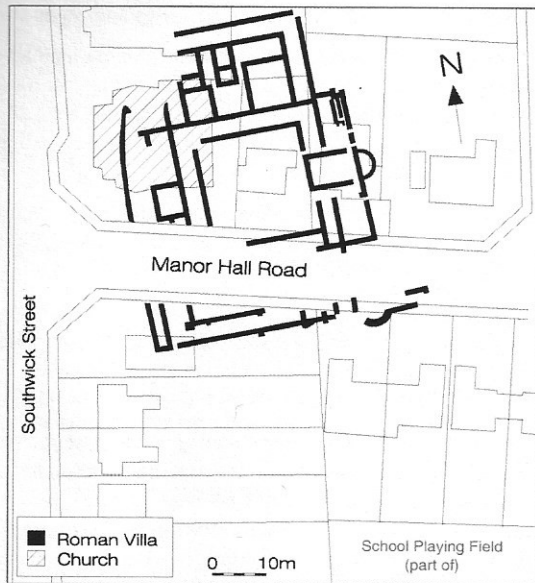

Fig 1 Survey location plan (Jane Russell)
The investigation was focused on the school playing field (NGR TQ 2445 0555), which lies close to and south of the site of Southwick Roman villa [Fig. 1]. The villa site, today occupied by a Methodist Church and related buildings, and several houses, is a Scheduled Monument (No. 27099), but the school and playing field lie outside the Scheduled area. The survey was run in collaboration with Eastbrook Primary School, in the first stage as a local education and community event as part of National Archaeology Week in 2008. The Southwick school project during this week ran from 12th-15th July, with the resistivity survey across part of the playing field, and subsequent excavation of a test-pit in the north-west corner of the field.
2. The second anomaly constitutes a diagonal line of high-resistance, with a central break. The gap in this diagonal feature appears to correspond with an opening in the rectilinear feature, the first anomaly just to the north-west, and it might be suggested that they are part of a single related feature, such as a large architectural unit. These linear anomalies are not on the exact alignment of the villa, though the villa is orientated at a similar diagonal angle [cf. Fig. 1]. Taken together, these anomalies may represent part of the villa environs, not yet investigated, perhaps a trackway leading into a related out-structure, or the whole unit perhaps representing an architectural feature such as a large gatehouse or series of walls.